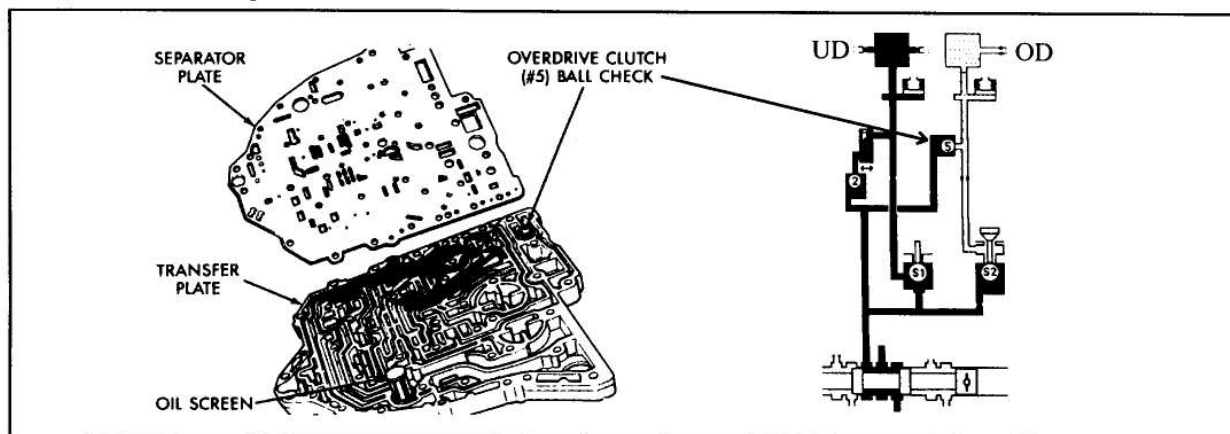

Figure 64
- A low clutch volume reading in just the OD clutch circuit has been commonly caused by a defective O ring on the # 5 check ball capsule in the transfer plate as shown in Figure 64. This blocks controlled line pressure from entering the OD clutch circuit. If the O ring or the capsule itself fails to hold back this pressure, the low OD clutch volume reading will vary depending upon the severity of the leak. If the leak is slight, most of the oil will exhaust past the OD solenoid and the OD clutch volume may appear to be normal. As the leak gets worse, the OD solenoid is flooded and the OD circuit becomes charged with oil causing below minimum CVI. **Note: The # 5 check ball capsule has been eliminated in late model 41TE's and all 42LE's.**